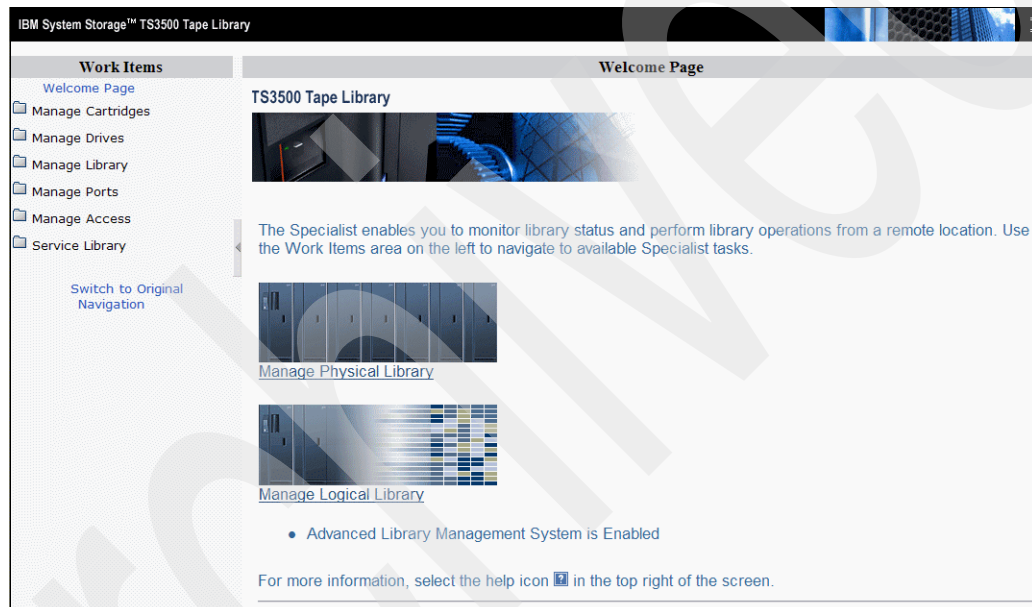

Figure 6-67 IBM System Storage Tape Library Specialist Web interface
1. Go to the IBM System Storage™ Tape Library Specialist Web interface (Figure 6-67). For instructions for setting up the IBM System Storage Tape Library Specialist Web interface, refer to *IBM System Storage TS3500 Tape Library: Operator Guide*, GA32-0560-01.